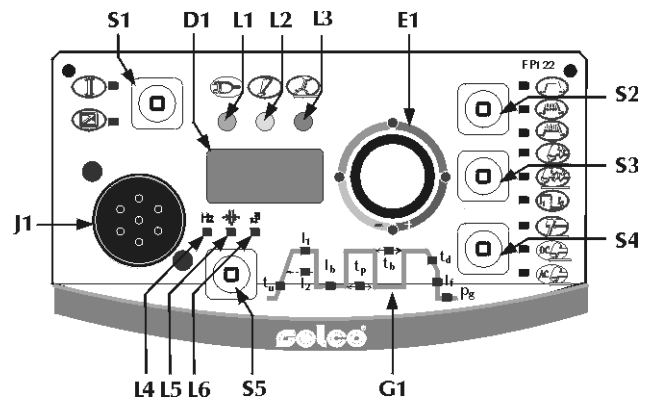

Fig.2
**4.1.2 FP122 front control panel for Genesis 200 AC-DC and Genesis 202 AC-DC (fig. 2)**